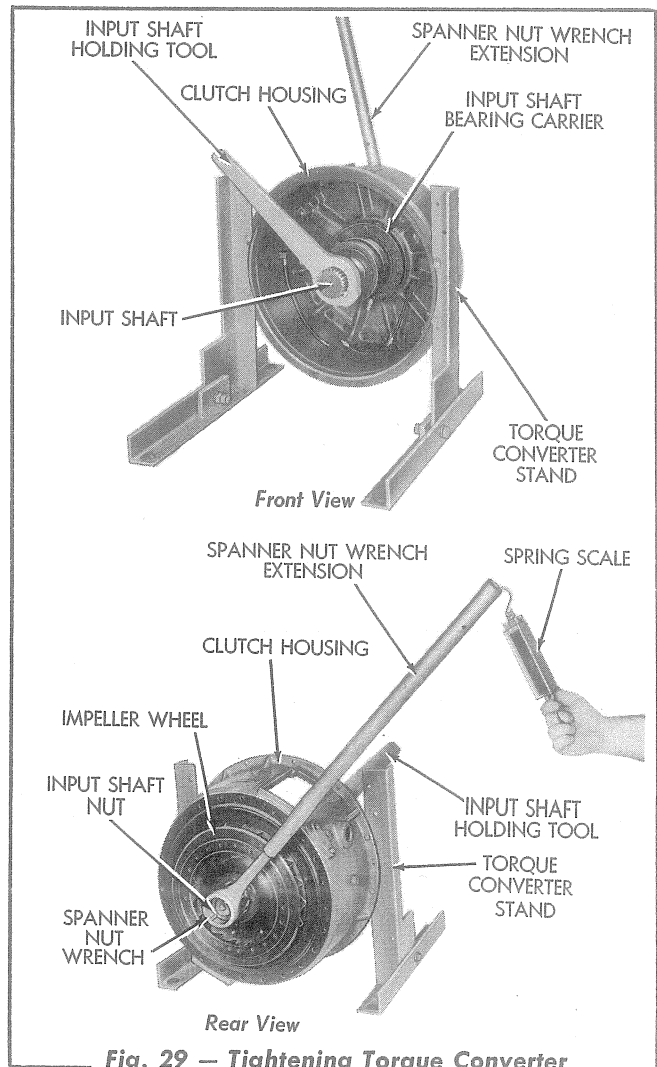

Fig. 29 — Tightening Torque Converter Input Shaft Nut
- e. Place the over-running clutch retaining washer on the input shaft, then install the locking washer and the input shaft nut. Using special tools as shown in Fig. 29, tighten the input shaft nut to a torque of 200 lbs. ft. and secure with the locking washer.
To tighten the input shaft nut to a torque of 200 lbs. ft., the following pull is required on the spring scale when using the spanner nut wrench and extension as shown in Fig. 29.